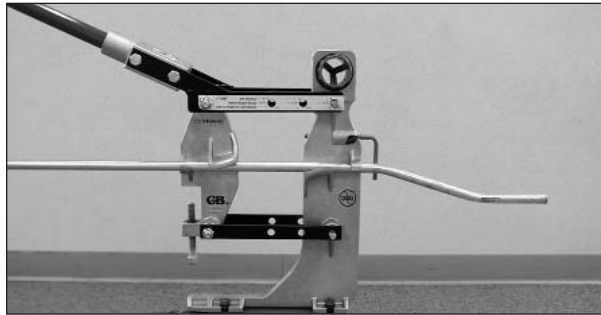

Figure 6
2. Do not remove conduit. Keep all adjustments and settings the same. Raise the bender handle until the conduit can be slid forward. Slide the conduit forward until the end of the first offset bend is positioned past the second jaw. See Figure 6. Level the conduit and hold it steady.